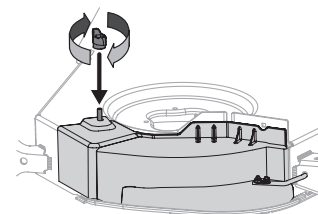

Figure 12
6. Secure with wing knob. See Figure 12.